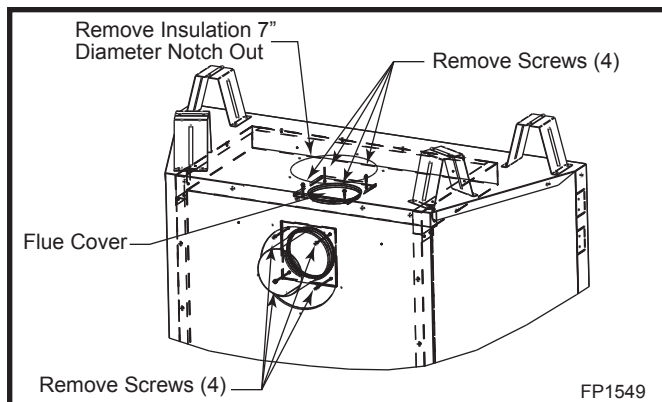

Fig. 12 Remove flue cover and flue pipe.
3. Carefully remove and discard the insulation directly below the 7" hole in the cabinet top. The insulation is perforated around the hole to aid in its removal. Remove the four (4) screws securing flue cover to top of unit and remove flue cover. (Fig. 12)
4. Remove the four (4) screws securing the flue pipe assembly to the appliance. Remove flue pipe. (Fig. 12)